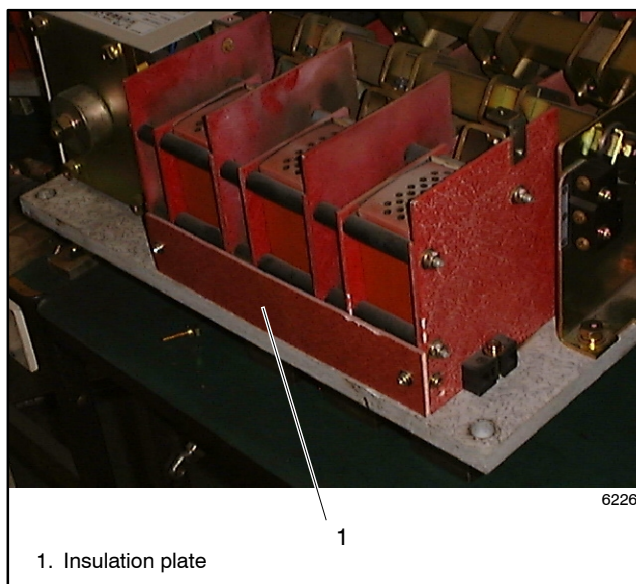

Figure 9-12 Contactor
2. Remove the insulation plate. See Figure 9-12.